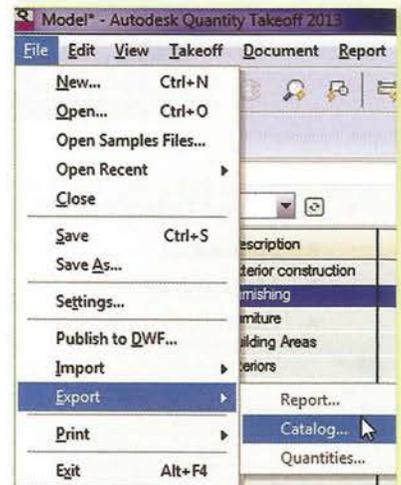

Fig 34: Export Catalog
- Select File menu » Export Catalog (Figure 34).